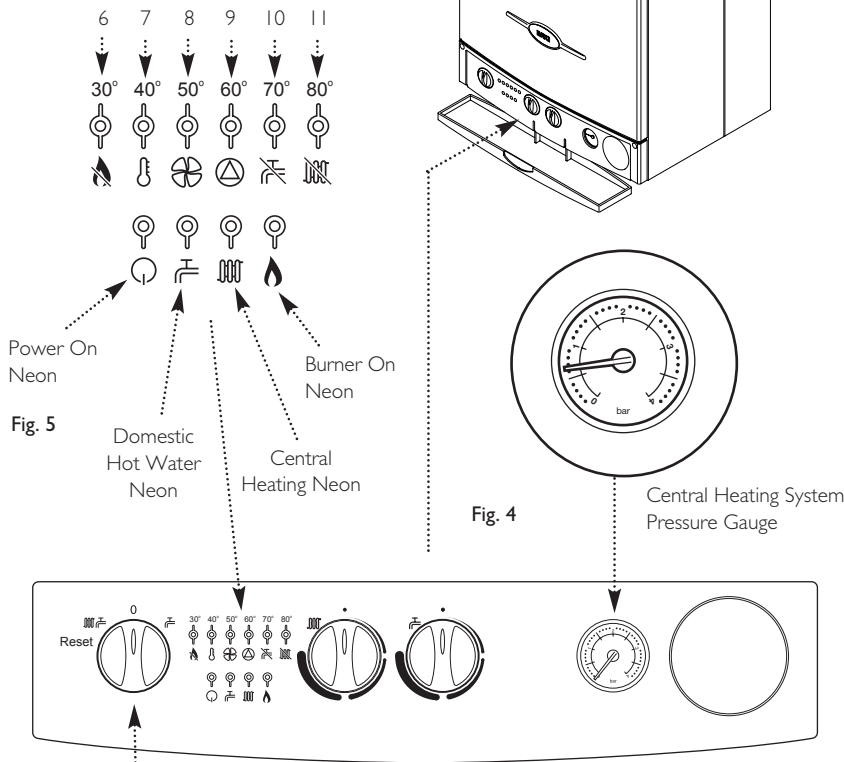

Fig. 4
1. Ensure that the electricity and gas supplies are turned on. Check that the central heating pressure is between 0.5 and 1.0 bar (Fig. 4).